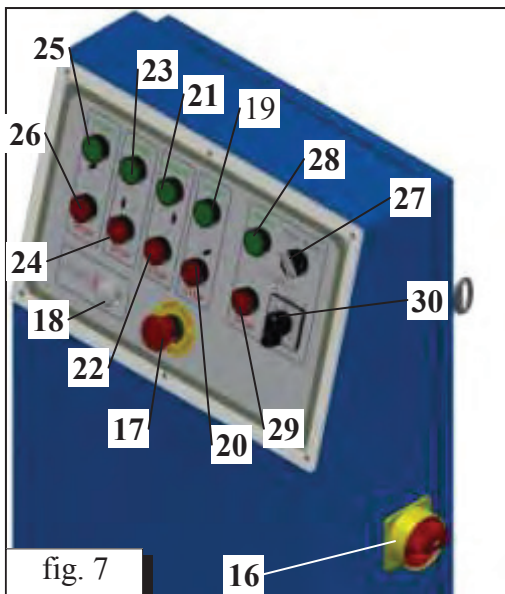

fig. 7
Control (fig. 7)
The machine starting is carried out by the following procedure (fig. 7):
The machine stop is carried out by the following procedure (fig. 7):
3. Turn the main lockable switch **16** (Figure 7) in “1” position and then the machine becomes live (the control lamp **18** lights).
12. The machine stop is carried out by subsequent pressing of the buttons **20, 22, 24, 26** and **29** (Figure 7).